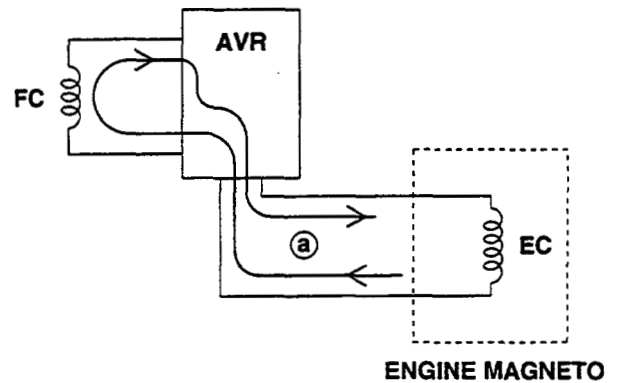

Fig. 5-11
When the generator is started, the permanent magnet on the engine rotates to generate a voltage in the exciting coil. This voltage is regulated by a diode in the A.V.R. to feed a current to the generator field coil. (FC). (See Fig. 5-11)